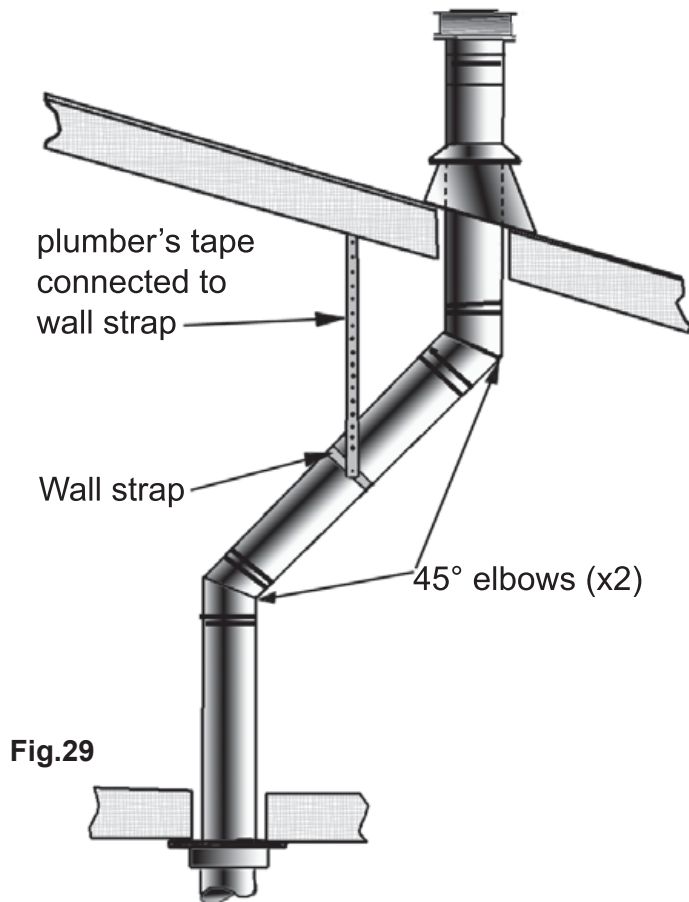

Fig.29
- If an offset is necessary in the attic to avoid obstructions, it is important to support the vent pipe every 3'0" (914 mm), to avoid excessive stress on the elbows, and possible separation. Use wall straps as needed. (Fig.29)